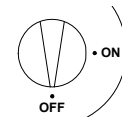

Figure 1A
1. **On non-CE fryers only** ensure that the gas valve knob is in the OFF position (see Figure 1A).